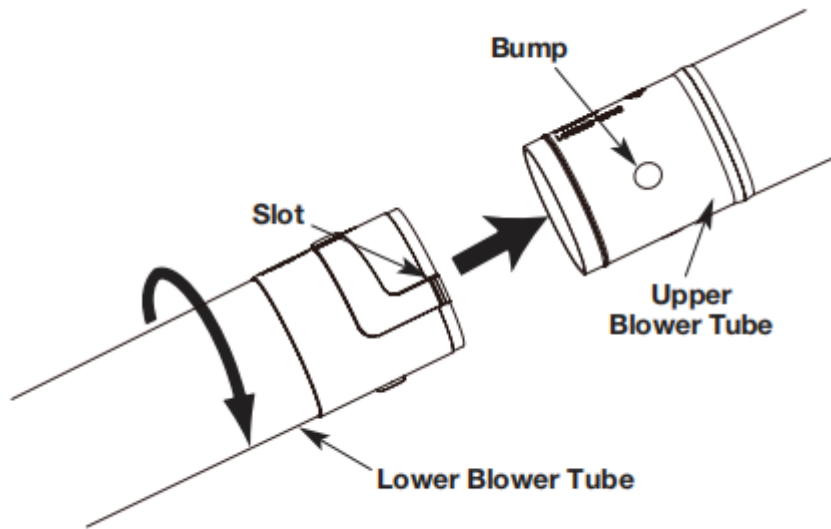

Fig. 2
- Align the slots on the lower blower tube with the bumps on the lower end of the upper blower tube (Fig. 2).
- Install the lower blower tube onto the upper blower tube (Fig. 2).
- While holding the upper blower tube, twist the lower blower tube clockwise until it locks into place (Fig. 2).